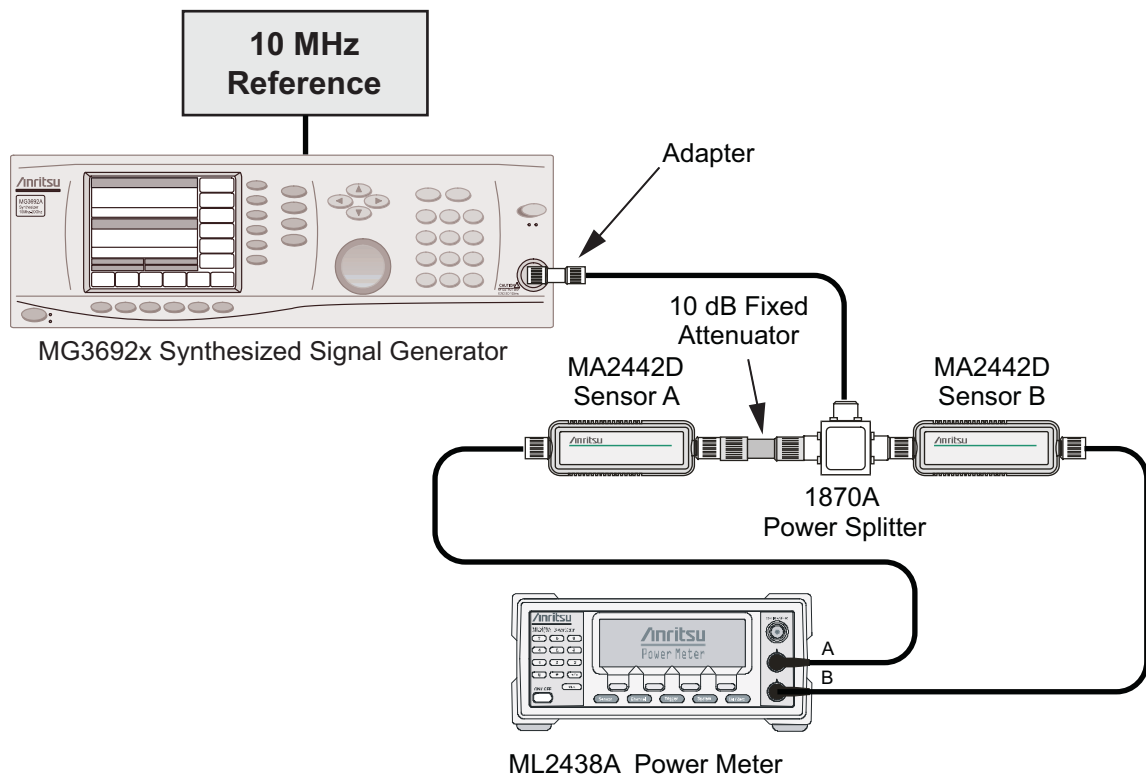

Figure 4-1. Power Meter Measurement Accuracy
2. Connect the model 1870A power splitter to the MG3692A/B output, and connect Sensor B to one power splitter output as shown in Figure 4-1 on page 4-1.